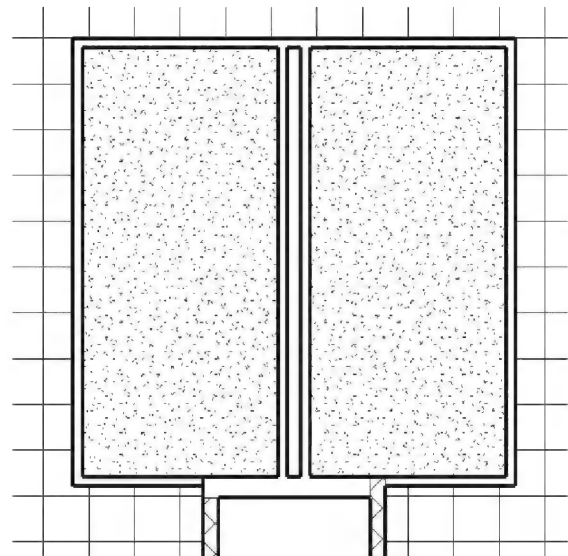

FIGURE 11-1.12 Revised Level 1 RCP
26. Select the ceiling grid in the atrium, and then pick **Edit Boundary** to adjust the reference lines for the perimeter of the ceiling grid in the atrium area (Figure 11-1.12).